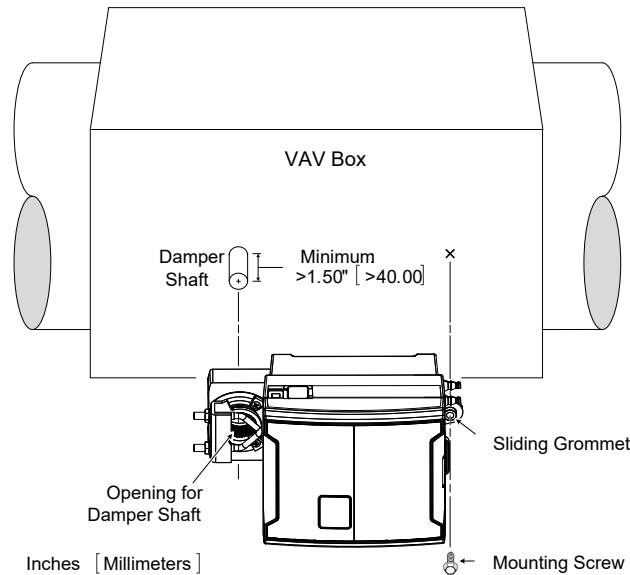

Figure 11: Standard Mounting Method: Mounting a controller on a damper shaft
4. Screw the controller onto the VAV box through the controller's Sliding Grommet. The sliding grommet allows the controller to move back and forth when the VAV box's damper shaft is off center. Ensure to center the grommet along its travel range and ensure that the screw enters the VAV box at a right angle. Using a power screwdriver with a 6" extension (Figure 8), attach the controller to the VAV box with the 1" [25mm] screw provided with the controller (Figure 9) through the controller's sliding grommet as shown in Figure 11. Otherwise, mark the positions for the screw on the VAV box with a punch and then drill a hole the into the VAV box. Then attach the controller to the VAV box with the 1" [25mm] screw provided with the controller.